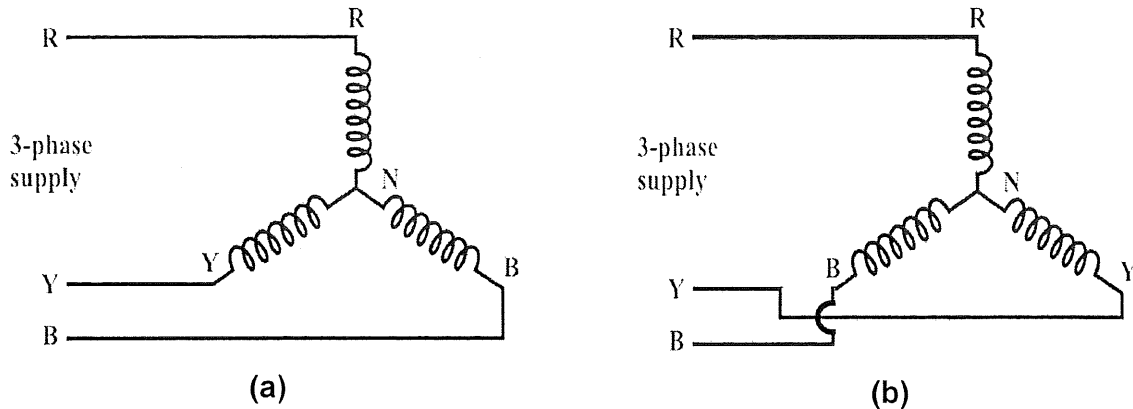

Figure 4
- a) State the direction of rotation for the induction motors shown in Figure 4 (a) and (b). (2 marks)